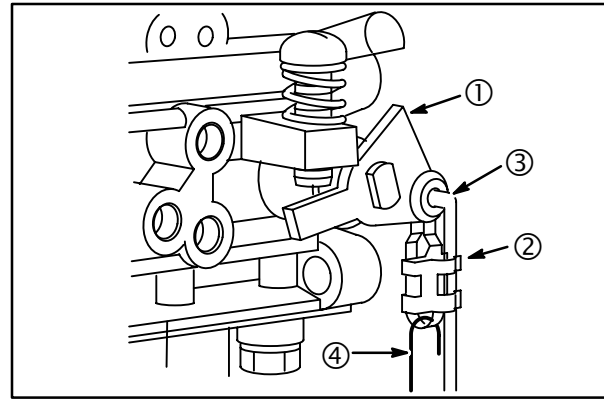
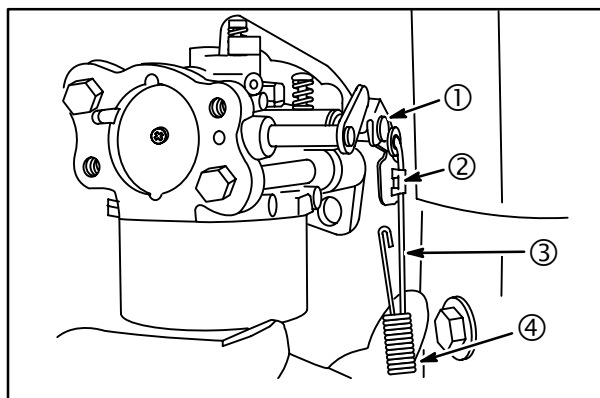

Fig. 26
Fig. 25
- Connect governor link (3) to throttle lever (1). Snap retainer (2) over link, **single barrel carburetor, Fig. 25**, two barrel carburetor, **Fig. 26**.
- Install governor link spring (4) in loop on retainer.